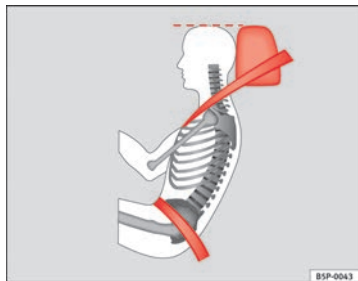

Fig. 13 Correct seat belt and head restraint positions, viewed from side
- The lap part of the seat belt must lie across the pelvis, never across the stomach. The seat belt must lie flat and snugly on the pelvis ⇒ fig. 13. Pull the belt tight if necessary to take up any slack.